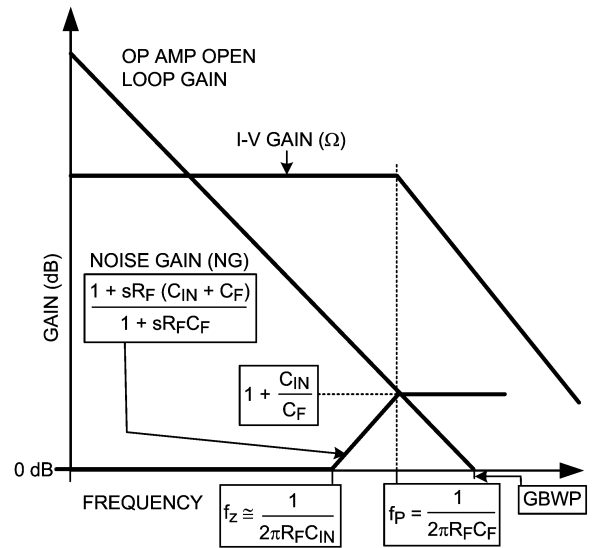

FIGURE 15. Transimpedance Amplifier Graphical Stability Analysis and Compensation
The diode capacitance (C_D) along with the input capacitance of the LMH6601 (C_A) has a bearing on the stability of this circuit and how it is compensated. With large transimpedance gain values (R_F), the total combined capacitance on the amplifier inverting input ($C_{IN} = C_D + C_A$) will work against R_F to create a zero in the Noise Gain (NG) function (see *Figure 15*). If left untreated, at higher frequencies where NG equals the open loop transfer function there will be excess phase shift around the loop (approaching 180°) and therefore, the circuit could be unstable. This is illustrated in *Figure 15*.
Figure 15 shows that placing a capacitor, C_F , with the proper value, across R_F will create a pole in the NG function at f_p . For optimum performance, this capacitor is usually picked so that NG is equal to the op amp's open loop gain at f_p . This will cause a "flattening" of the NG slope beyond the point of intercept of two plots (open loop gain and NG) and will result in a Phase Margin (PM) of 45° assuming f_p and f_z are at least a decade apart. This is because at the point of intercept, the NG pole at f_p will have a 45° phase lead contribution which leaves 45° of PM. For reference, *Figure 15* also shows the transimpedance gain (I-V (Ω))
The op amp noise voltage will be gained up in the region between the noise gain's "zero" and its "pole" (f_z and f_p in Figure 15). The higher the values of R_F and C_{IN}, the sooner the noise gain peaking starts and therefore its contribution to the total output noise would be larger. It is obvious to note that it is advantageous to minimize C_{IN} (e.g. by proper choice of op amp, by applying a reverse bias across the diode at the expense of excess dark current and noise). However, most low noise op amps have a higher input capacitance compared to ordinary op amps. This is due to the low noise op amp's larger input stage.